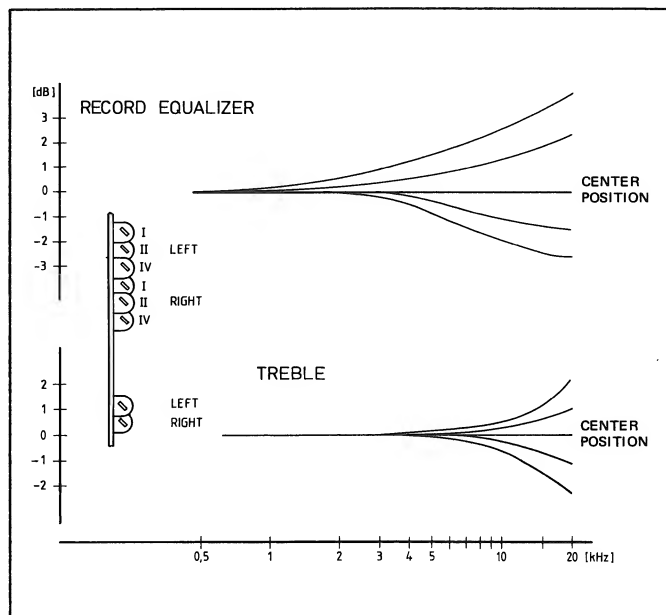

Fig. 5.6
- Record 10 kHz and 18 kHz and align with equalizer and trimmer potentiometer (on the RECORD CONTROL board) to the same level as at 500 Hz so that the frequency response will be as linear as possible (Fig. 5.6). The absolute level is not important in this case